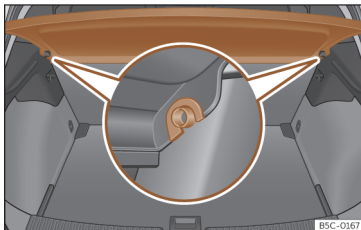

Fig. 116 In the luggage compartment: removing and fitting the shelf.
- Remove the rear shelf from the side supports»» Fig. 116 by pulling it upwards and then take it out.
- Insert the cover horizontally so that the “recess” fits onto the axis of the supports »» Fig. 116 and press down until it engages.